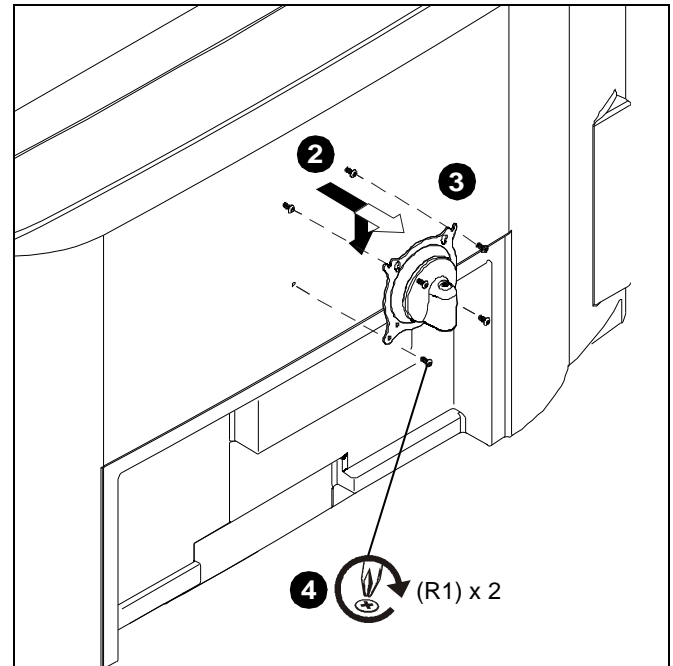

Figure 5
2. Align two screws (R1) in display back with upper teardrop mounting holes in faceplate. (See Figure 5)
3. Place two screws (R1) in display back into upper teardrop mounting holes in faceplate and lower display until screws are seated in lower area of teardrop mounting holes. (See Figure 5)
4. Install two screws (R1) through lower mounting holes in faceplate and into display back. (See Figure 5)